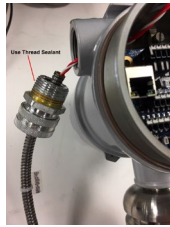

Figure 1. Inserting RTD Cable Assembly
1. Unpack and insert the RTD cable into the AUTOXP assembly as shown in Figure 1. Coat the threads of the threaded connector with thread sealant (provided by customer). After feeding the red and white wires into AUTOXP, and after coating the connector with thread sealant, screw the connector into the AUTOXP assembly ensuring that the connector is not cross threaded and securely fastened.